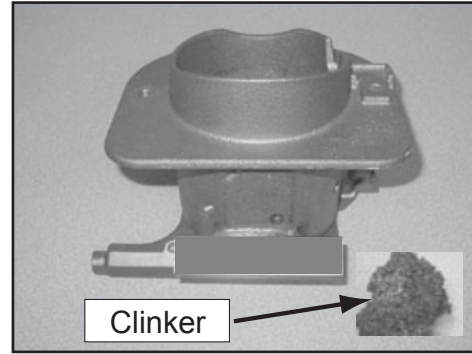

Figure 27.1 - Large Clinker
- b. It may be necessary to use your fire pot clean-out tool to chip away material that has built up on the sides of the fire pot and to push out any clinkers (**Figure 27.1**).